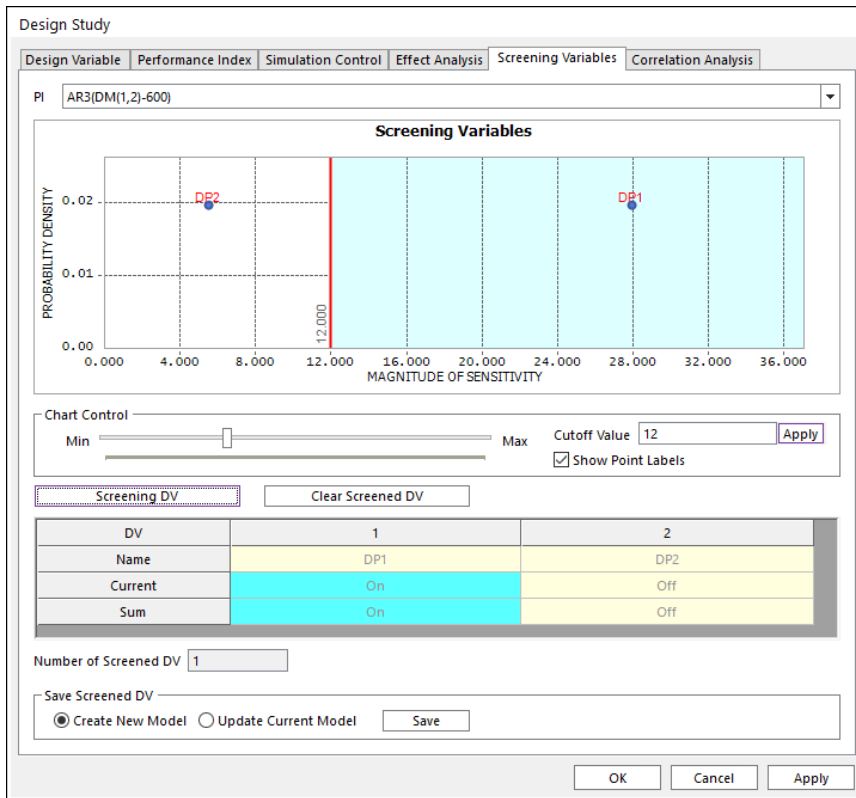

Figure A-4-14 Screened result for the third performance index
- Next, change the performance index **AR3**. Then, define the cutoff value as 12. Perform the similar procedure in step 2. Then you can see the result shown in Figure A-4-14. In the figure, Current represents the screening results for PI_3. Total represents the union of screening results for PI_1 and PI_3. If you push **Save** button, only active design variables (marked 'on') are remained in New Model or Current Model.